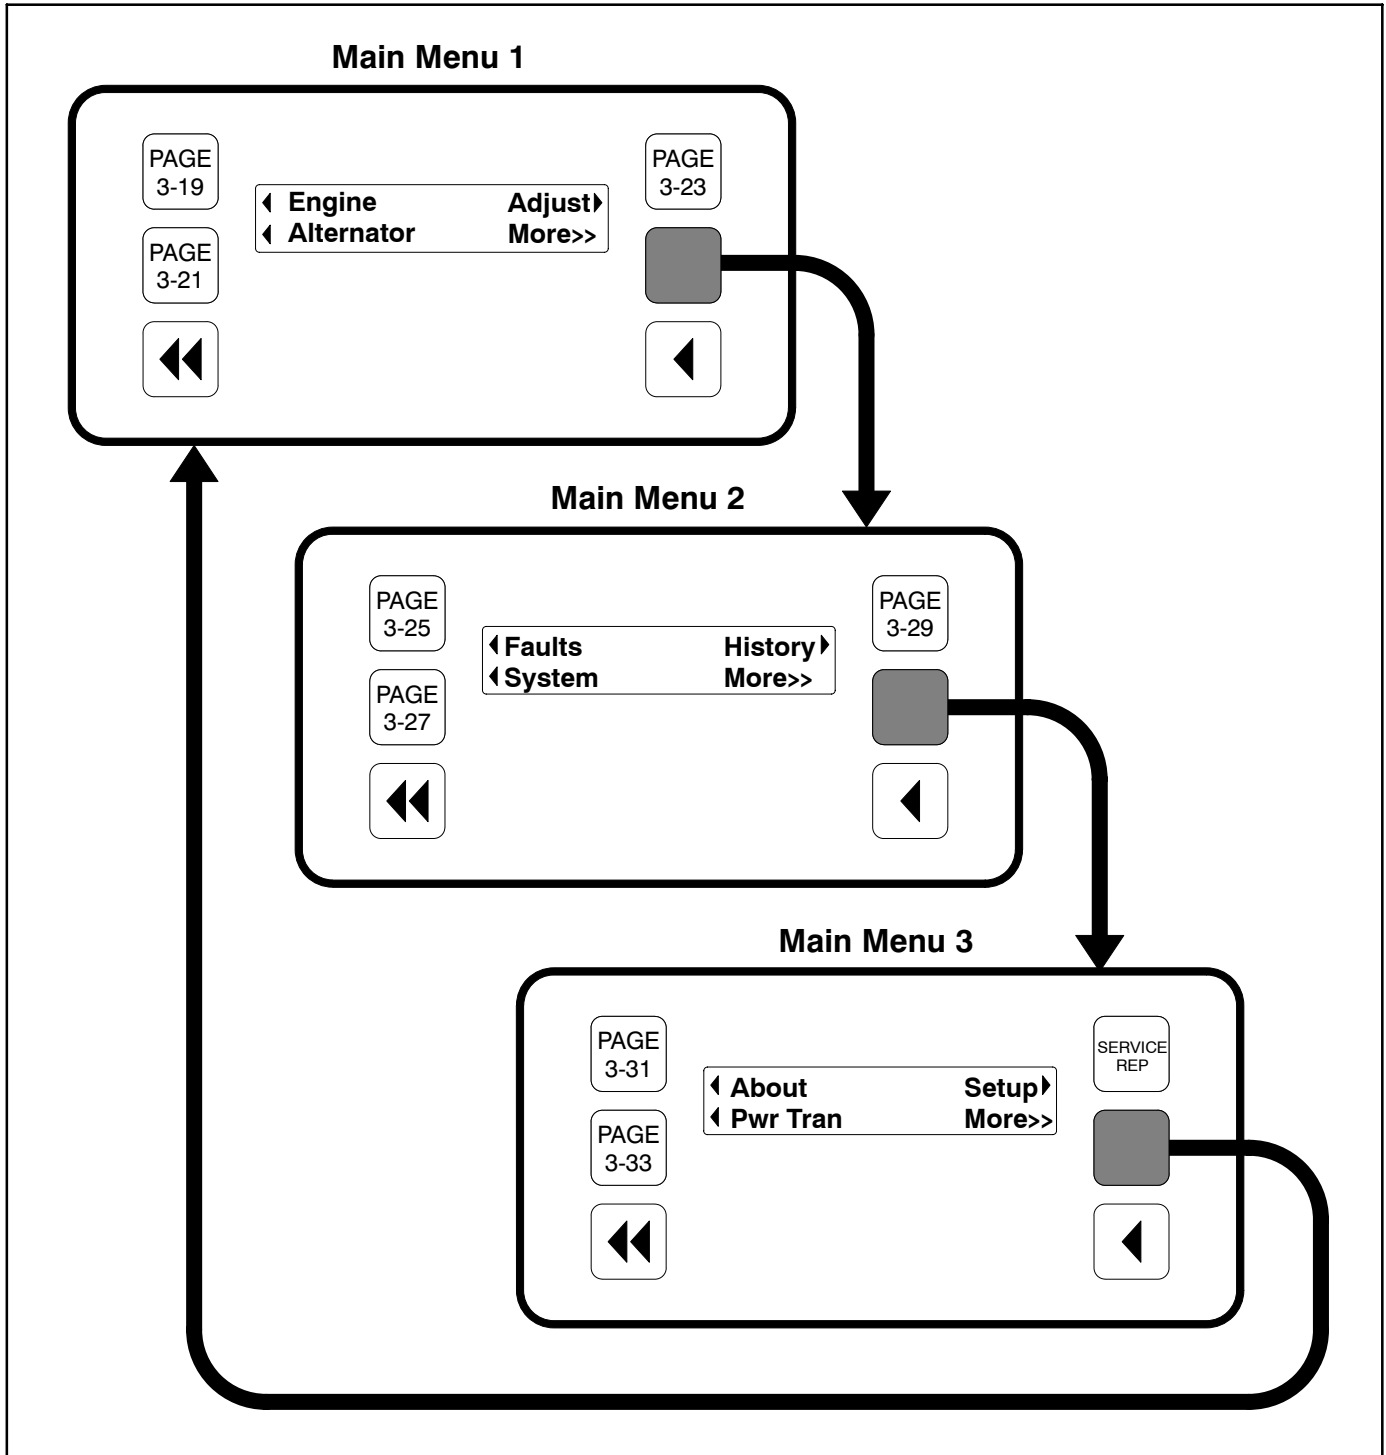
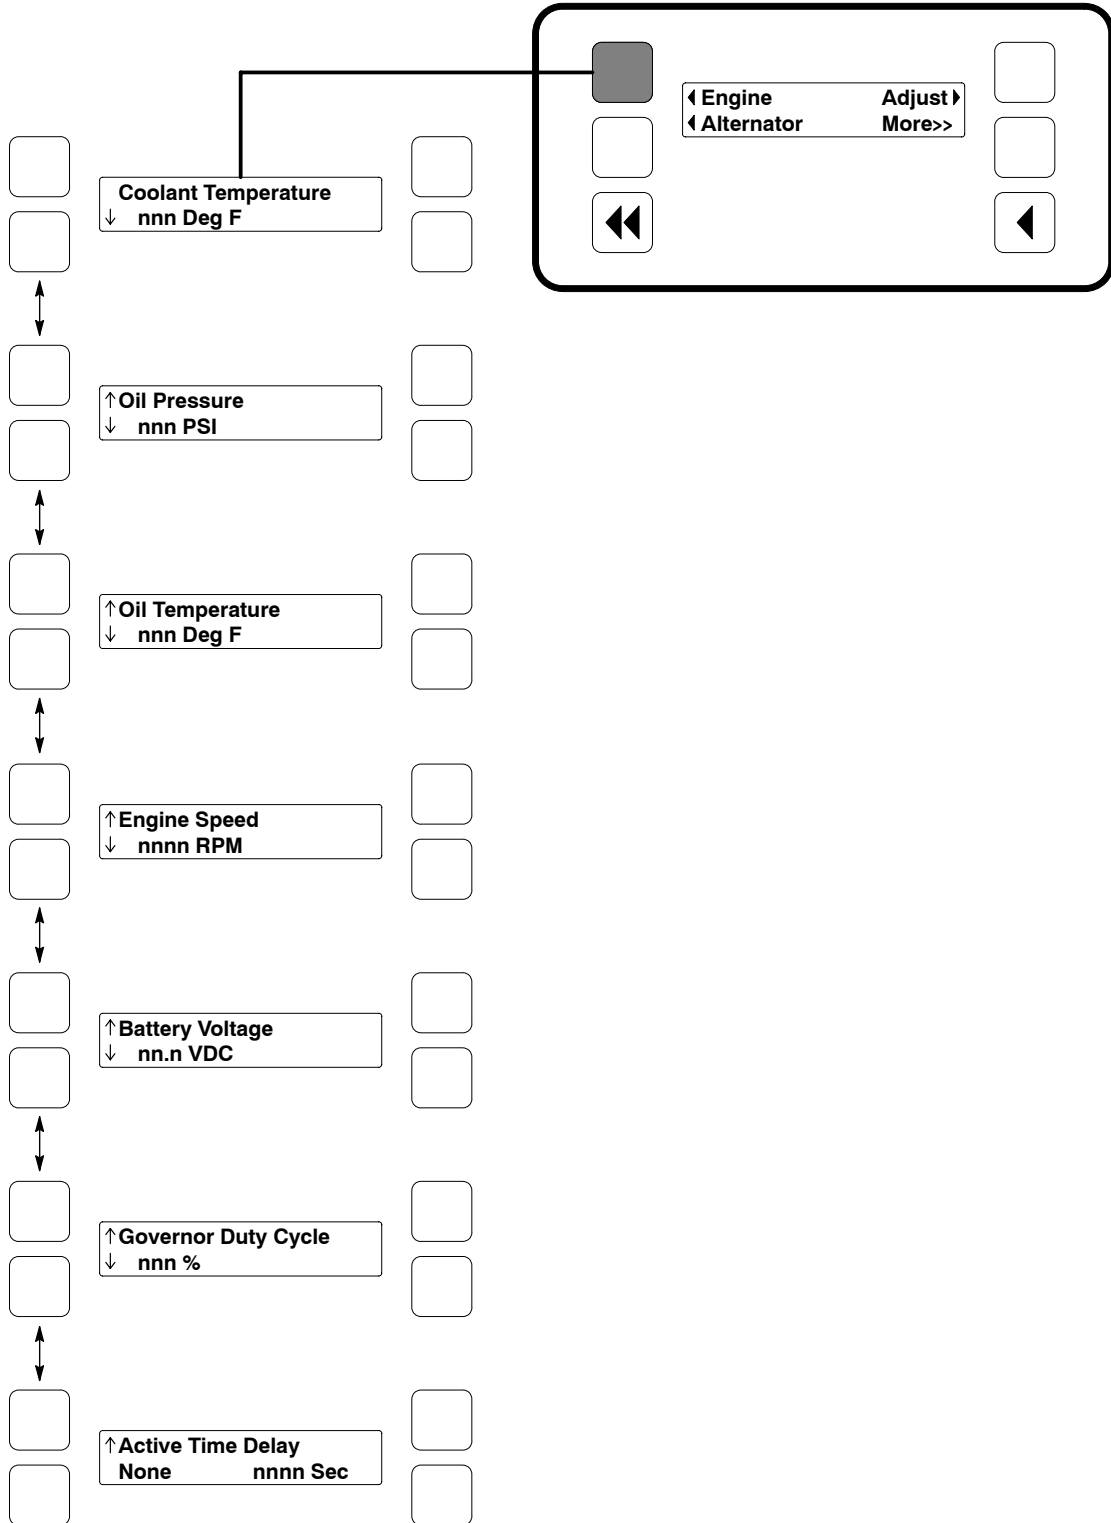

FIGURE 3-6. MAIN MENUS
FIGURE 3-9. ENGINE MENU
- In the digital display for main menus (Figure 3-6), the ◀ and ▶ symbols indicate that pressing the adjacent button causes the operating program to go to the selected submenu (e.g., Engine Menu in Figure 3-9).
- In the digital display, the More>> symbol indicates that pressing the adjacent button causes the operating program to go to the next main menu, as shown in Figure 3-6.
Home Button: Pressing this button causes the operating system to show Main Menu 1 (Figure 3-6) in the digital display.
Figure 3-6 shows the three major main menus available to the user. Figure 3-6 also includes references to pages in this section where you can find additional information on submenus. When viewing a submenu, you can press the previous main menu button at any time to view its main menu.
Figure 3-9 shows a block representation of the Engine menu. If you press the button next to the word “Engine” in the display, the first Engine submenu is displayed.